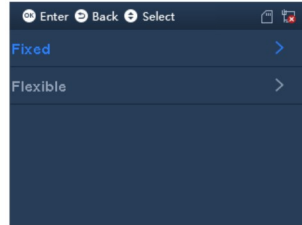

Figure 2-10
Select shift type, click ③, see Figure 2-10.